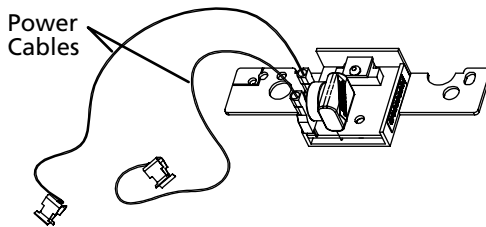

Figure 44. Attaching Power Cables to WOPI
5. Attach the power cables to the WOPI. See Figure 44.